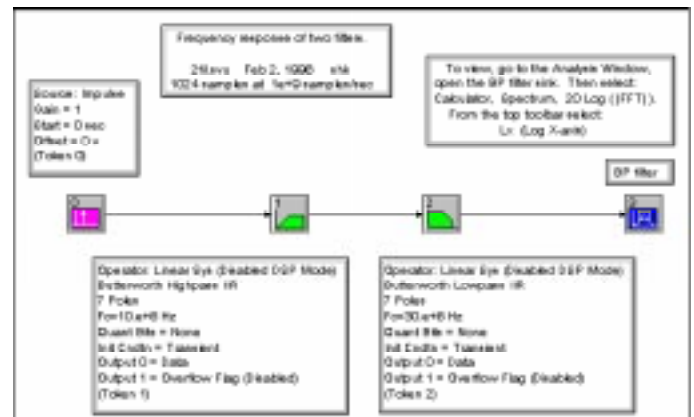
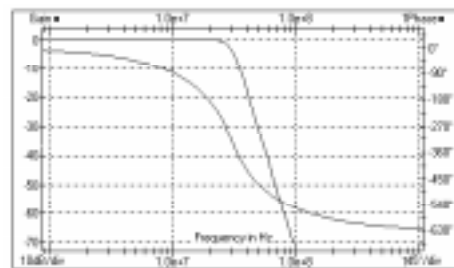
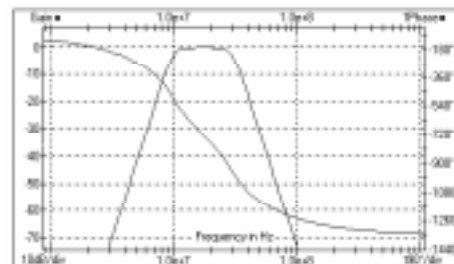

Figure 1. A system with multiple (two) Linear System tokens.
Figure 2. Filter design window.
Figure 3. System window Bode plot.
1. The simple system in Figure 1 contains two linear system tokens, a highpass filter and a lowpass filter. When a filter is being specified as a LinearSys token located in the Operator library, the Bode plot button at the bottom of the design window may be used to produce a plot similar to the one in Figure 2. This plot is calculated from a Laplace function and is the ideal transfer function of the filter, ignoring the system sample rate.
2. The Bode plot of both filters in series may also be viewed. In Figure 1 both filters have been specified, and connected in series, with a source and a sink. Any source may be applied to the system, including a zero amplitude signal. Just select the Bode plot toolbar button (3rd from the right, top).
The Enforced Delay mode is useful only if there is a feedback path in the system. The S-Domain (Continuous) Bode plot of Figure 1 was used to produce Figure 3.